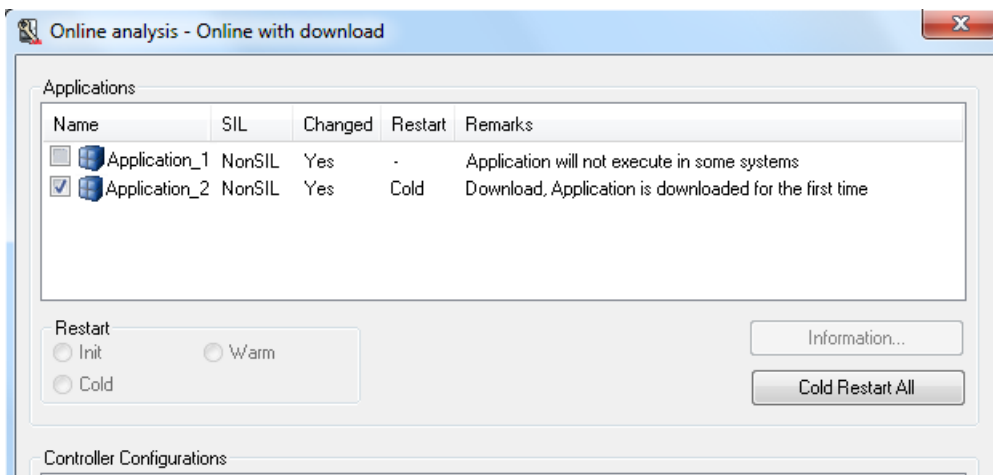

Figure 77. Connected applications to a controller. Only Application 2 will be downloaded.
2. Select the application to be downloaded. See the example in Figure 77.